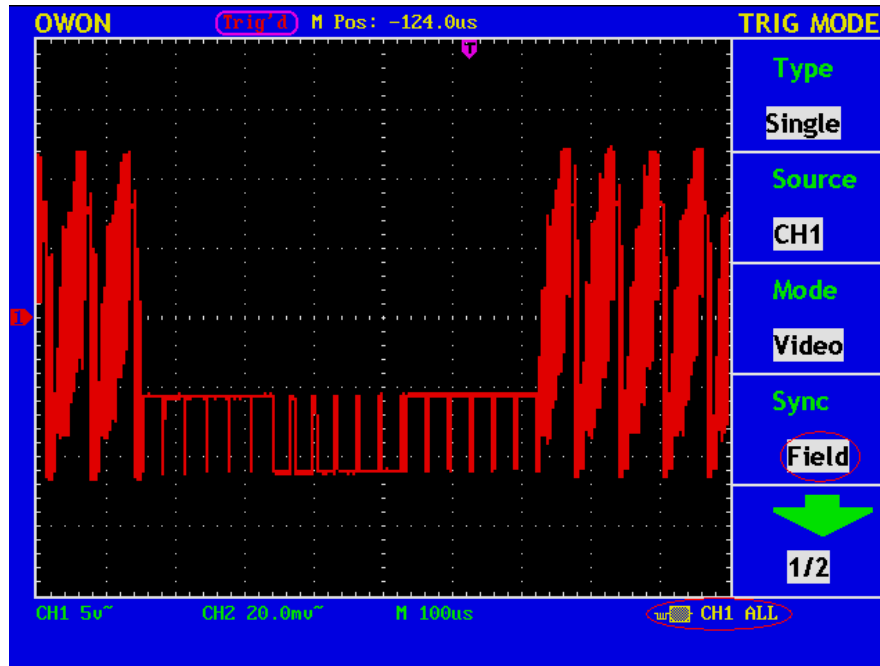

Fig. 114 Wave Form Obtained from Video Field Trigger
6. Adjust the **VOLTS/DIV**, **VERTICAL POSITION** and **SEC/DIV** knobs to obtain a proper wave form display (see Fig.114).